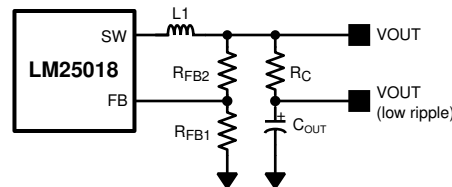

图 7-1. Low Ripple Output Configuration
This regulator regulates the output voltage based on ripple voltage at the feedback input, requiring a minimum amount of ESR for the output capacitor (C_{OUT}). A minimum of 25 mV of ripple voltage at the feedback pin (FB) is required for the LM25018. In cases where the capacitor ESR is too small, additional series resistance can be required (R_C in 图 7-1).
For applications where lower output voltage ripple is required, the output can be taken directly from a low ESR output capacitor, as shown in 图 7-1. However, R_C slightly degrades the load regulation.